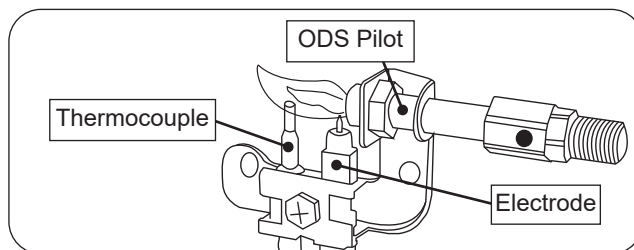

Fig. 23-2 ODS Pilot assembly detail
3. Locate the pilot assembly toward the center of the unit, near the main burner (see Fig. 23-2).